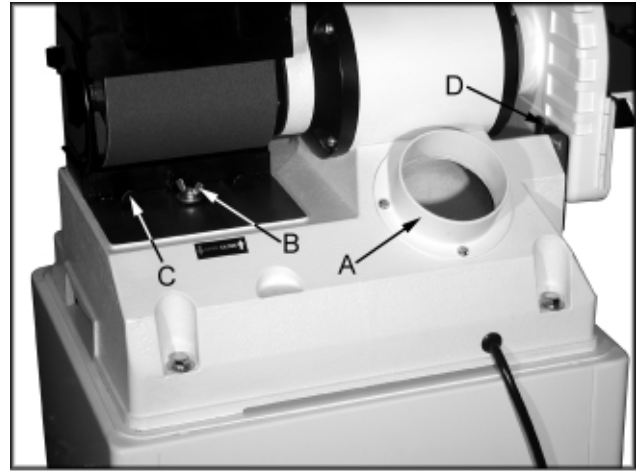

Fig. 16
1. Hook the sander to a dust collector using a 4" diameter hose and clamp (A, Fig. 16). JET offers a wide variety of hoses, adapters and dust collectors.
2. Loosen the wing nut (B, Fig. 16) and pull the gate (C, Fig. 16) open to allow air suction to the sanding belt. Push the gate closed to shut off air suction. Tighten the wing nut.
3. Push the gate (D, Fig. 16) down to shut off air suction to the disc. Lift the gate to open the air suction to the disc.